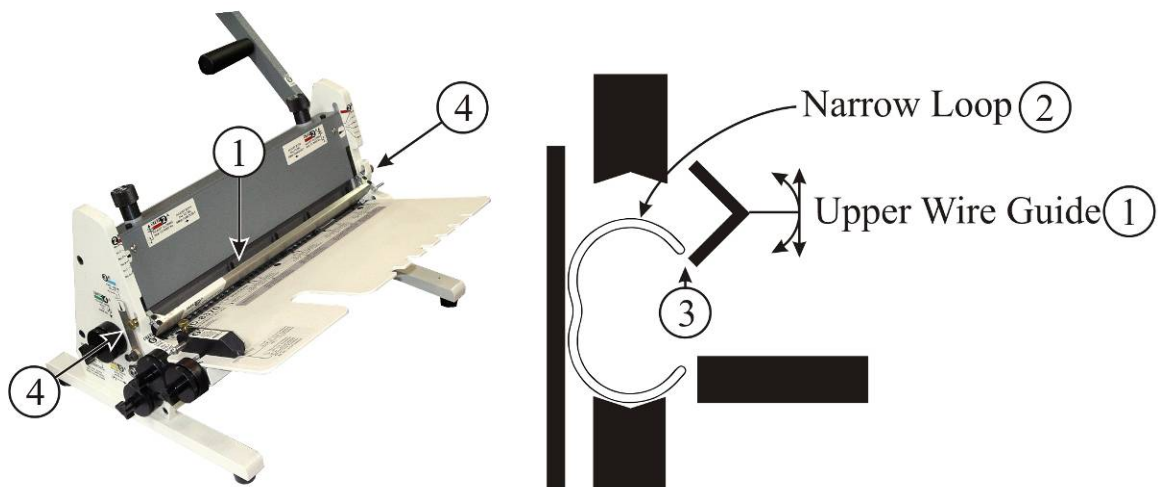

Fig. 7
STEP 7, Upper Wire Guide: See Figure 7.